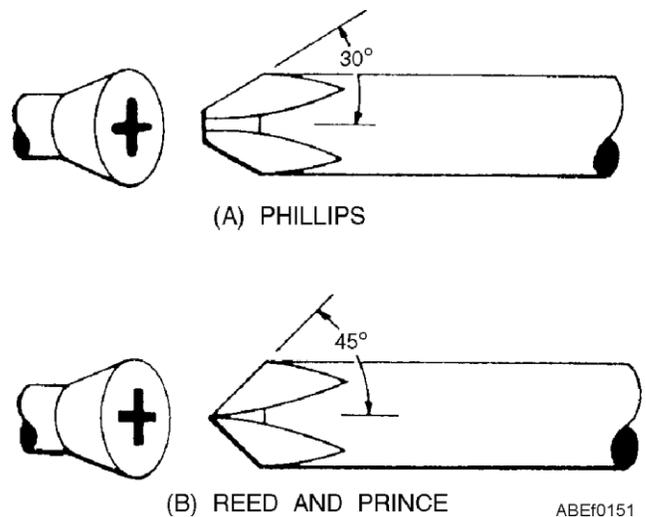

Figure 1-74.—Matching cross-slot screws and screwdrivers.
To distinguish between these similar screwdrivers, refer to figure 1-74.
2. The outline of the end of a Reed and Prince screwdriver is approximately a right angle, as seen in figure 1-74.